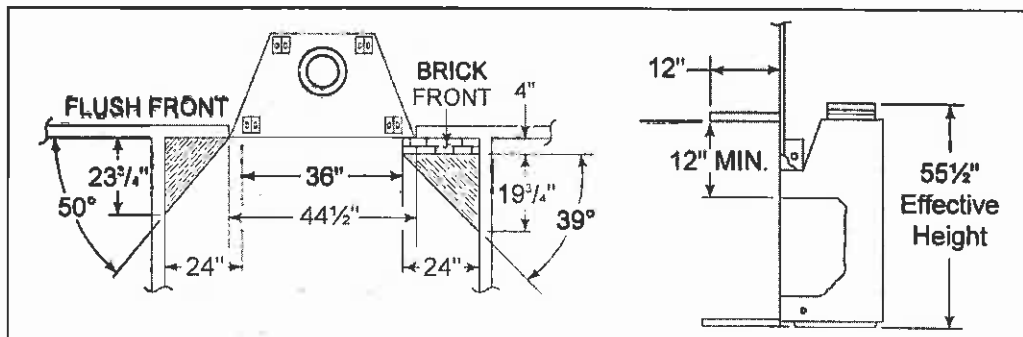

Figure 6 - Sidewalls and Surrounds
Adjacent combustible side walls must be located a minimum of 24" from the fireplace opening. See Figure 6. If you are using a decorative surround constructed of combustible material, it must be located within the shaded area defined in Figure 6. Short stub walls are also acceptable if they are contained within the shaded area.
- 6) The effective height of the fireplace assembly is measured from the base of fireplace to top of starter collar. See Figure 6.